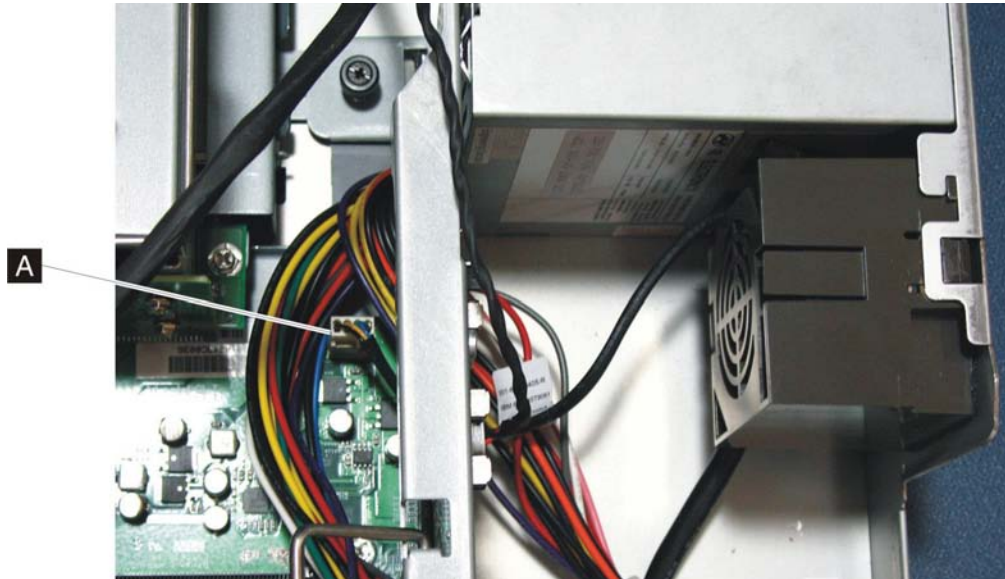

Figure 26. Disconnecting the chassis fan
2. Carefully disconnect the fan connector ( **A** in Figure 26) from the system board.